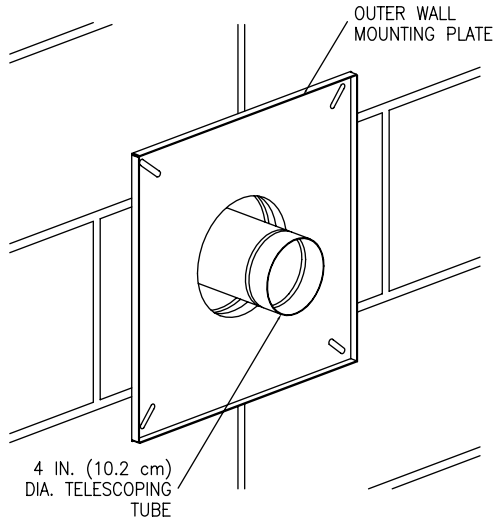

Figure 9
9. From outside the building, slide the six (6) inch (15.2 cm) diameter telescopic tube through the opening in the wall until the outer wall mounting plate is flush with the wall (See Figure 9).